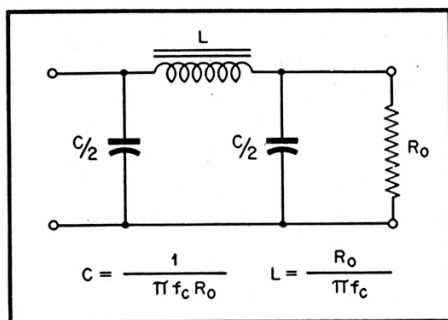

Fig. 2. Low-pass filter prototype, or constant- k section. R_o is the terminating resistance; f_c is cut-off frequency.
Equations (8) and (9) are seen to be very similar to the equations for the low-pass filter prototype shown in Fig. 2. The equations indicate, however, that the values given by the reactance chart for L and C will be equal to one half of the value calculated from the prototype equations if R_o is substituted for R_1 and R_2 and f_c is substituted for f .
For example, if it is desired to design a 10,000-ohm filter section with a cut-off frequency f_c of 1,000 cps, substituting these values in the equations of Fig. 2 give